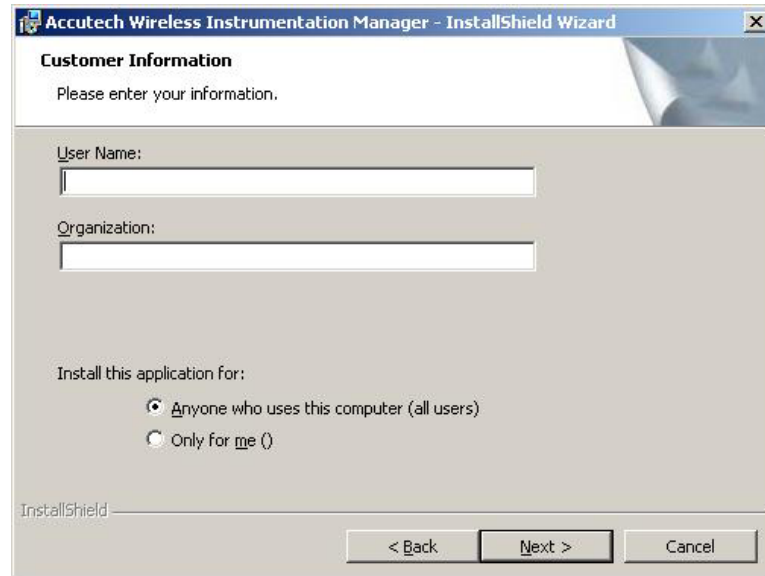

Figure 3-3: User and Organization Screen
- [6] Click **Next** to move to the screen shown in Figure 3-3.